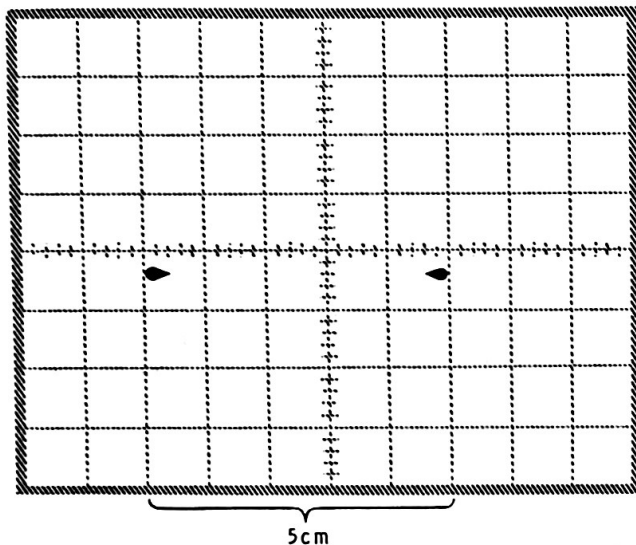

Figure 20
7. Adjust the X-Y CAL control (R258, on the horizontal circuit board) to place the two dots exactly 5 cm apart as shown in Figure 20.